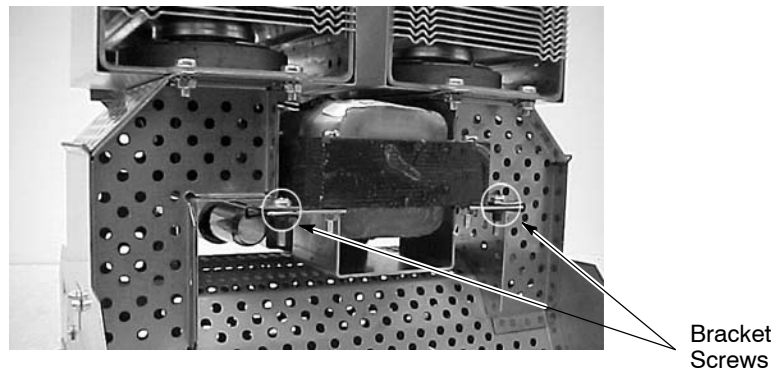

Figure 2 Transformer Bracket Screws
7. Remove the two M4 screws shown in Figure 2.
16. Slide the transformer bracket all the way into the wave guide assembly. Secure the bracket with the two M4 screws shown in Figure 2.